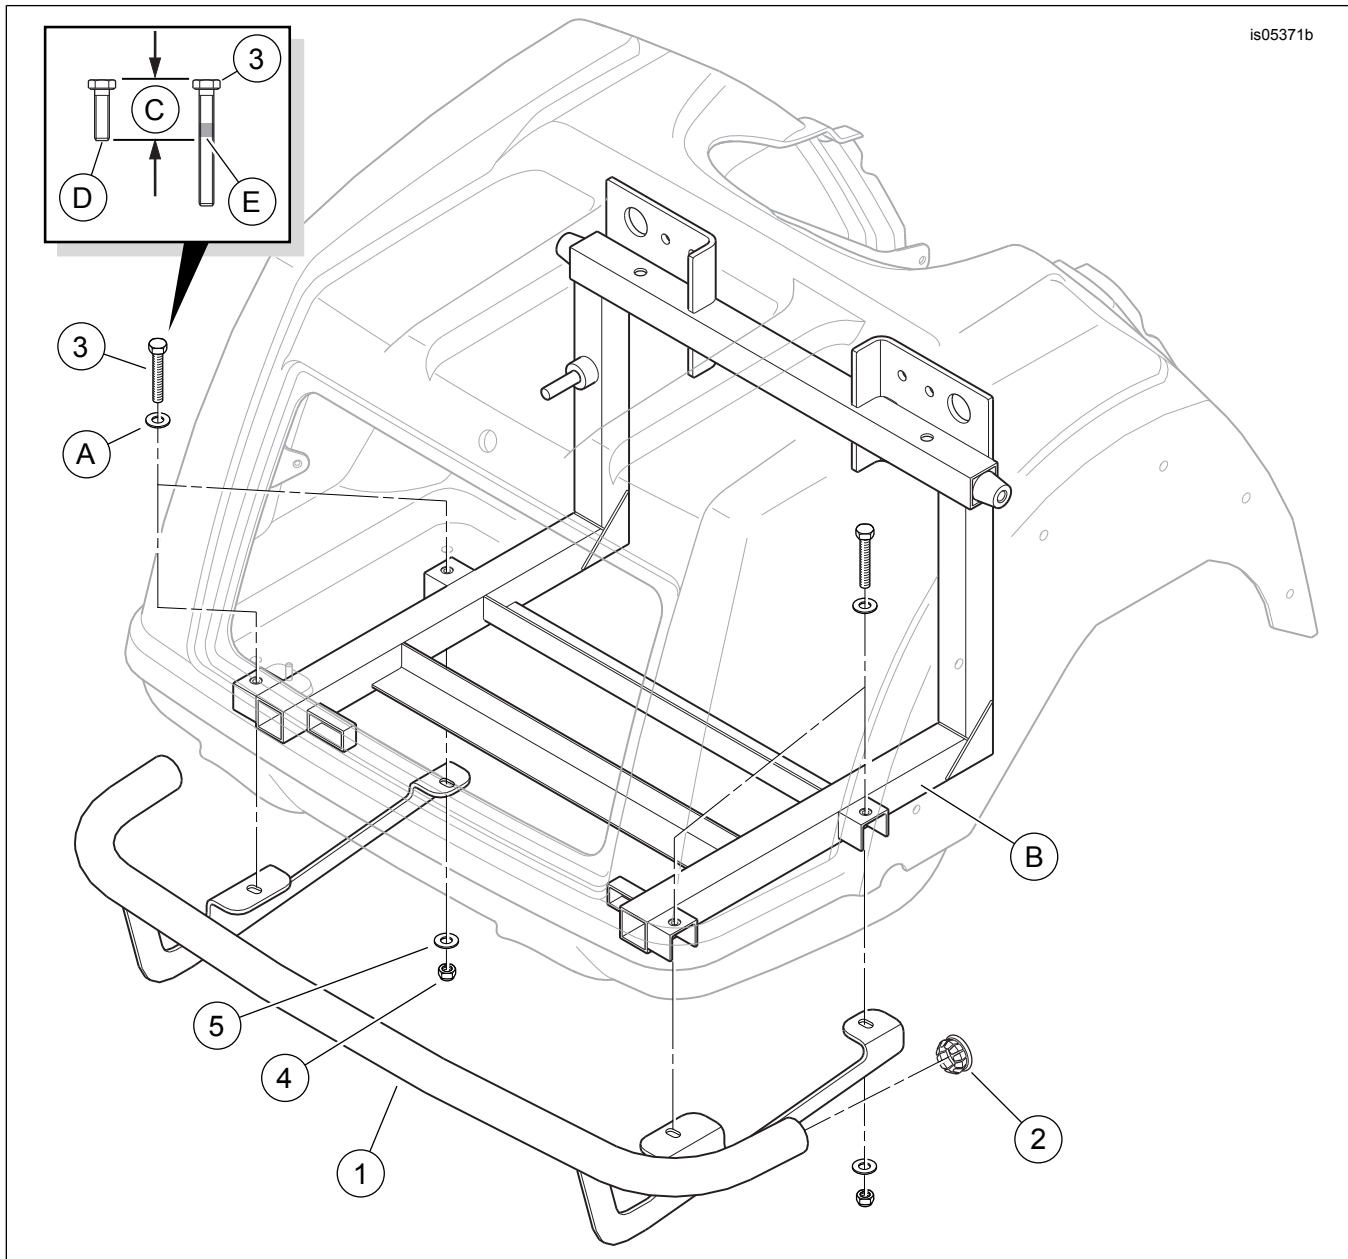

Figure 1. Service Parts: Trike Chrome Rear Guard Kit
See Figure 1 and Table 1.
2. See Figure 1. Locate four screws with washers (A) in the floor of the trunk compartment that hold the body to the rear frame. Leaving the washer in place, remove one of the screws. Save screw for step 3, then discard.
3. See Figure 1. Apply a small amount of threadlocker to screw (3).